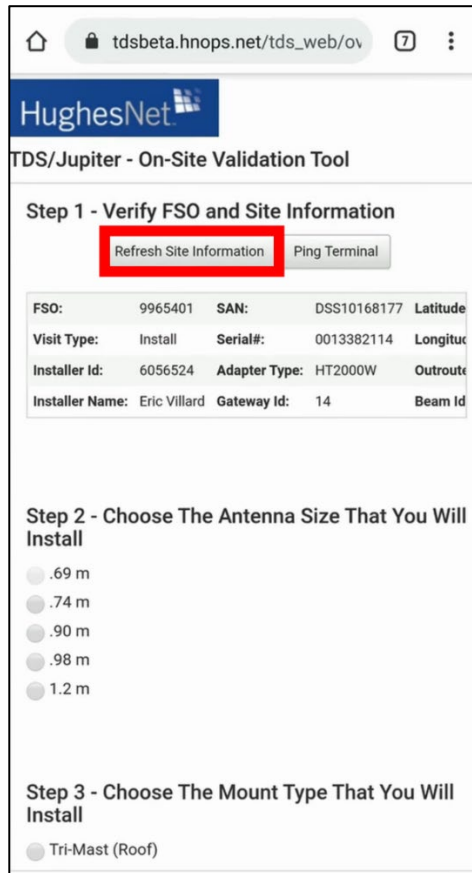

Figure 70: OVT step 1
2. The OVT sign-in page will open on your smart device's web browser. OASIS automatically fills the fields on the OVT sign-in page (Figure 70).
3. Ensure the information is correct, then tap **Launch OVT** (outlined in Figure 70) to open the tool.